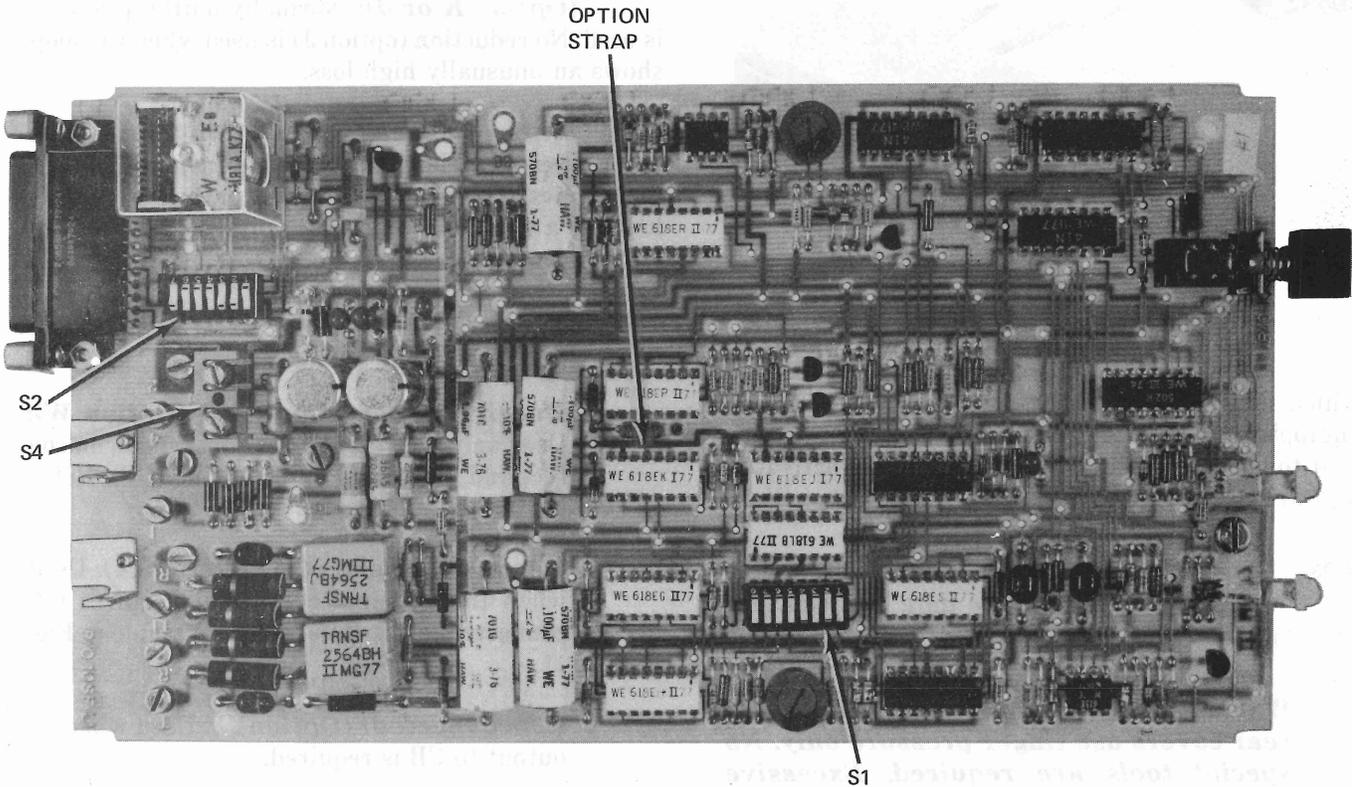
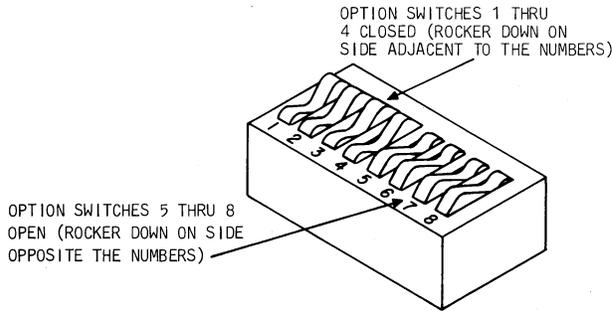

Fig. 6—Circuit Pack of DS 108F (Similar to DS 108G Circuit Pack)
Fig. 7—Dual In-Line Package (DIP) Switch Operation
2.01 Data sets 108F and G are provided with a number of options which are installed prior to placing the data set in service. All options are installed and removed with the switches or option strap shown in Fig. 6. Each option and associated switch (refer to Fig. 7 for switch [S1 and S2] operation) or strap setting is listed in Table A. Similar information is contained on the label located on the underside of the data set housing. Extra labels are available by ordering Form E-10064.